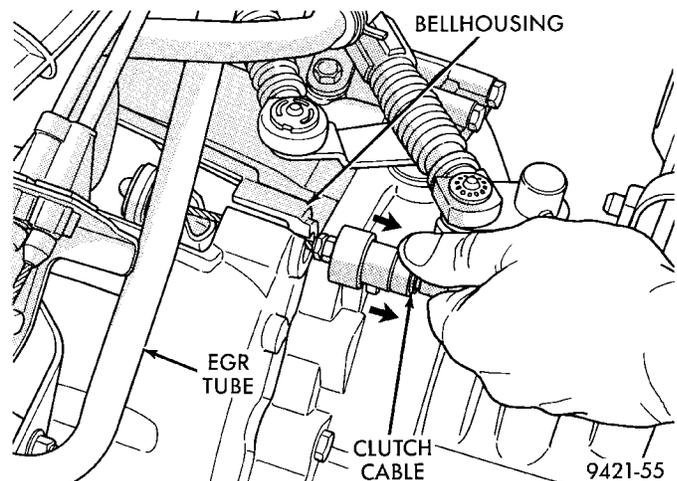

Fig. 4 Cable at Transaxle
- (1) Pull up and remove Power Distribution Center.
- (2) Remove clutch cable inspection cover.
- (3) Pull back on clutch cable housing and disengage cable from housing (Fig. 4).
(1) With slight pressure, pull the clutch release lever end of the cable to draw the cable taut. Push the clutch cable housing toward the dash panel (With less than 25 lbs. of effort, the cable housing should move 30-50mm.). This indicates proper adjuster mechanism function. If the cable does not adjust, determine if the mechanism is properly seated on the bracket.
(2) If the adjust mechanism functions properly, guide the cable through the slot in the transaxle housing. Connect cable to release lever, seating the cupped washer securely on lever tangs.
(3) Pull back on clutch cable housing and insert into transaxle housing (Fig. 4).
(4) Reinstall cable inspection cover and PDC. Check clutch pedal position switch operation.